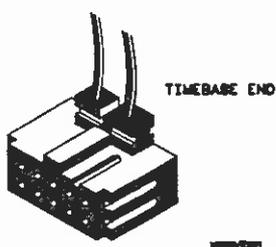

Figure A-9. Cable End
- g. Install one cable per acquisition card in the correct timebase card connector, making sure that you install the correct end. See figure A-9.